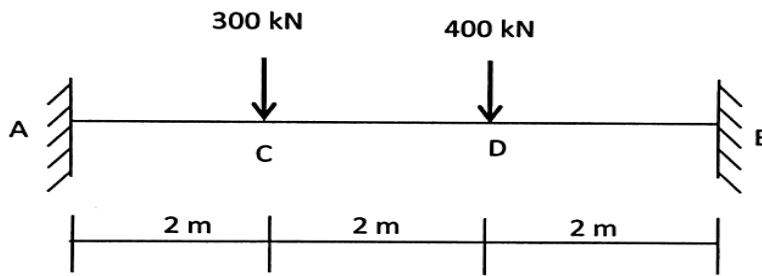

Fig.5
Q.5 Determine fixed end moment for the loaded beam as shown in fig.5 also draw BMD and SFD for beam. 15
Q.6 Draw BMD of fixed beam as shown in figure 5 by using three moment theorem. 13